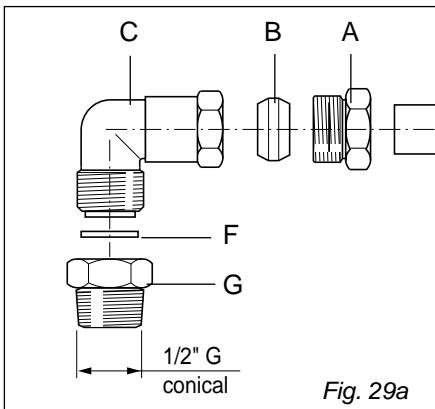

Fig. 29a
The fitting is made up of: (fig. 29a - 29b):
- ✓ Gasket F and bicone B (Fig. 29a - 29b) guarantee the seal of the gas connection.